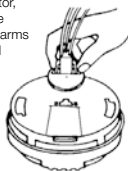
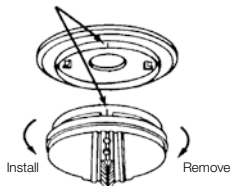

FIGURE 6
FIGURE 7
5. Plug the A.C. QUICK CONNECTOR into the back of the alarm (see Figure 6), making sure that the locks on the connector snap into place. Then push the excess wire back into the electrical box through the hole in the center of the trim ring.
6. If you have finished all the WIRING, BATTERY INSTALLATION AND TRIM RING MOUNTING STEPS, you can install the alarm on the trim ring. Alignment marks are provided on the side of the alarm and on the trim ring (see Figure 7).
7. Install the alarm on the trim ring with the indicating marks aligned and rotate the alarm in the direction of the "ON" arrow on the cover until the alarm snaps in place (see Figure 7).
To replace the battery, remove the alarm from the trim ring by rotating the alarm in the direction of the "OFF" arrow on the cover (see Section 4, Figure 7) To disconnect the A.C. power harness, squeeze the locking arms on the sides of the Quick Connector while pulling the connector away from the bottom of the alarm (see Section 4, Figure 6).